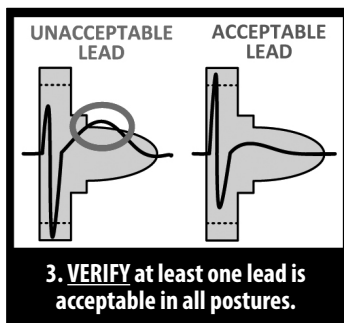

Figure 4: Evaluating the QRS complex
3. **Evaluate** the QRS complex. If the entire QRS complex and trailing T-wave are contained within the colored profile, the QRS is deemed acceptable. If any portion of the QRS complex or trailing T-wave extends outside of the colored profile, the QRS is deemed unacceptable (*Figure 4*).